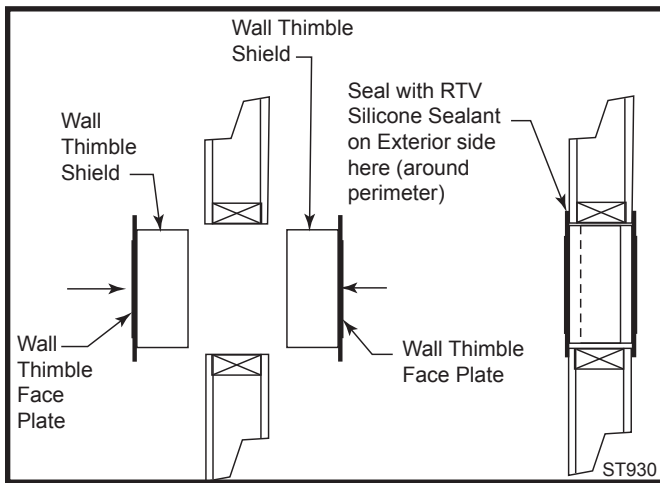

Fig. 43 Wall thimble.
5. If required, install the outside half of the wall thimble (WT) through the opening and screw or nail in place. (Fig. 43) Seal around the perimeter of the thimble face plate on the exterior wall using an RTV silicone sealant to provide protection from possible rain infiltration. (Fig. 43)